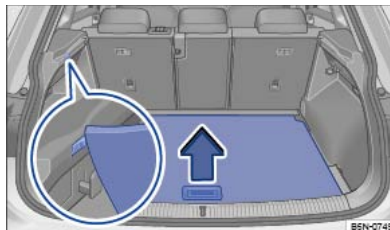

Fig. 182 In the luggage compartment: raising the luggage compartment floor.
- Lift the recessed handle in the luggage compartment floor $\Rightarrow$ *Fig. 182* and fold the floor upwards in the direction of the arrow until it is held in position by the side restraints (zoomed in) $\Rightarrow$ *Fig. 182*.